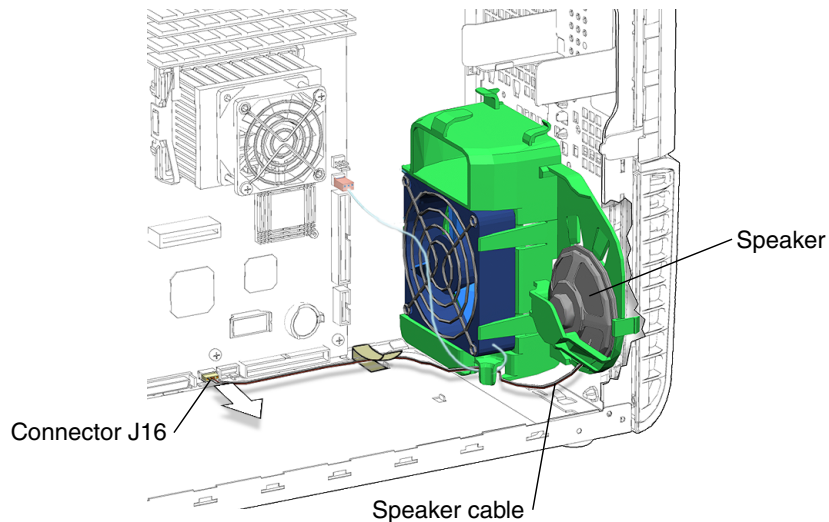

FIGURE 13-34 Disconnecting the Speaker Cable
3. Disconnect the speaker cable (FIGURE 13-34).